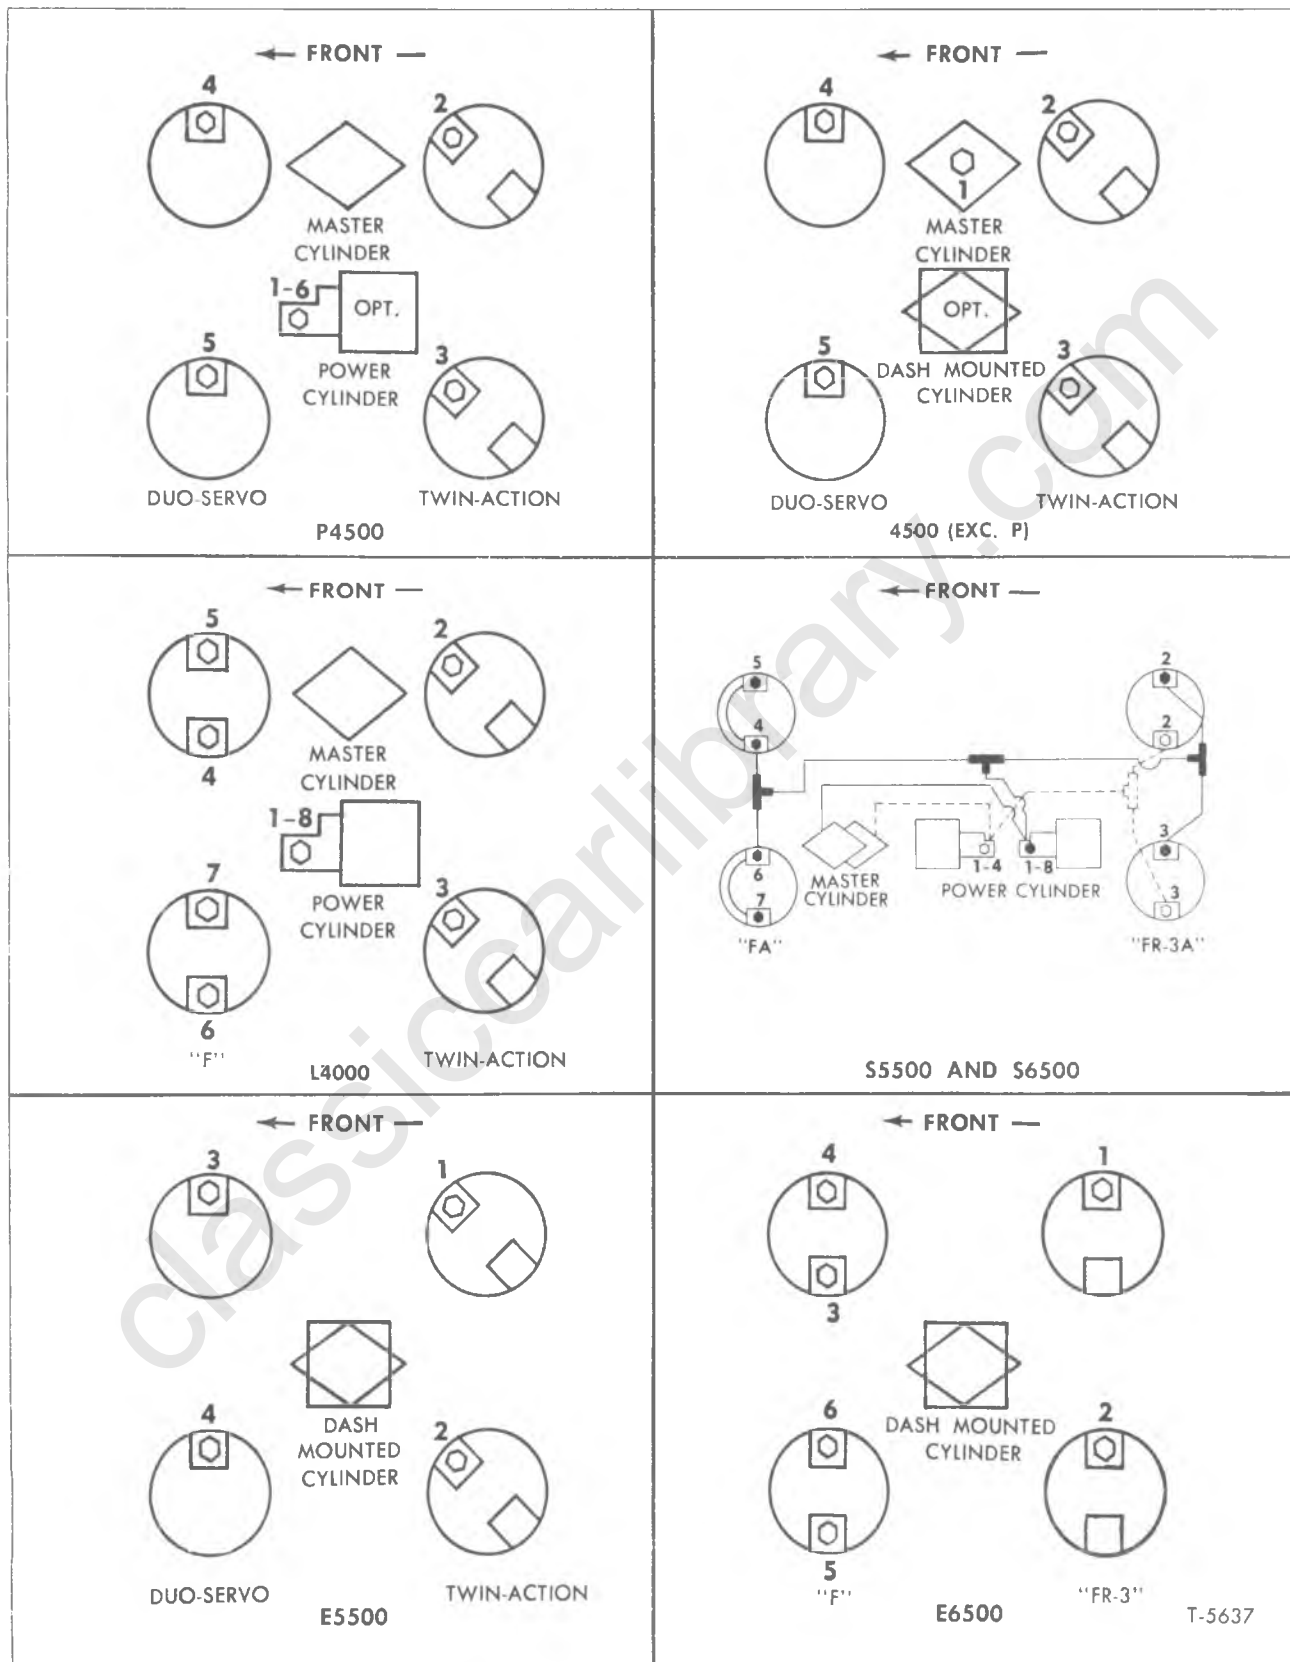

Figure 7—Hydraulic Brake Bleeding Sequence Chart
The need for bleeding air from system is generally indicated by a springy, spongy pedal action. The presence of air in system is a result of low fluid level in master cylinder, or of some part of the system having been disconnected. Bleeder valves are provided on the power cylinder (some models), master cylinder (some models) and at wheel cylinders. Type "F" and type "FA" front brakes have two cylinders per wheel and each has a bleeder valve. Type "FR-3" and type "FR-3A" rear brakes have two cylinders per wheel with a bleeder screw at the top cylinder only. Duo-Servo front brakes have one cylinder per wheel and each has a bleeder screw. Twin-Action rear brakes have two cylinders per wheel with a bleeder screw at the top cylinder only. Refer to figure 7 for bleeding sequence by truck model.
It is recommended that brake system is bled in a definite sequence to obtain best result. Figure 7 illustrates various combinations of brake equipment used, with bleeder valves numbered in the recommended sequence in which they should be bled.
Refer to figure 7 for bleeding sequence.
4. Bleed valve No. 2 (on power cylinder where used), then bleed wheel cylinders in sequence shown in figure 7. After bleeding wheel cylinders, repeat bleeding operations at power cylinder (where used).